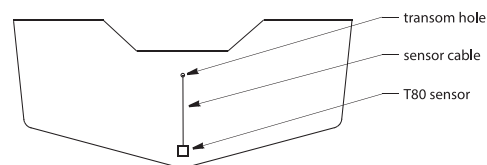

Figure 1. Mounting on the transom
1. Remove the hull nut (see Figure 1).
2. Push the sensor into the mounting hole using a twisting motion to squeeze out excess marine sealant (see Figure 1).
CAUTION : Mount the sensor as close to the centerline (keel) of the boat as possible to ensure the sensor remains in the water when the boat is turning (Figure1).